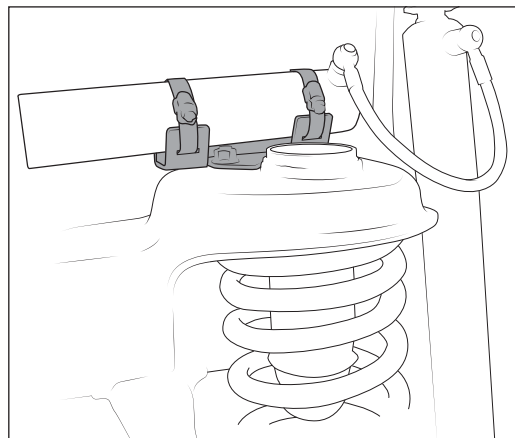

Figure 26
- D. If using remote reservoir shocks, use the supplied hose clamps to secure the reservoir portion of the shock into the bracket. CLAMP ROTATION IS CRITICAL, pay attention to prevent contact with the washer bottle (Fig. 26).